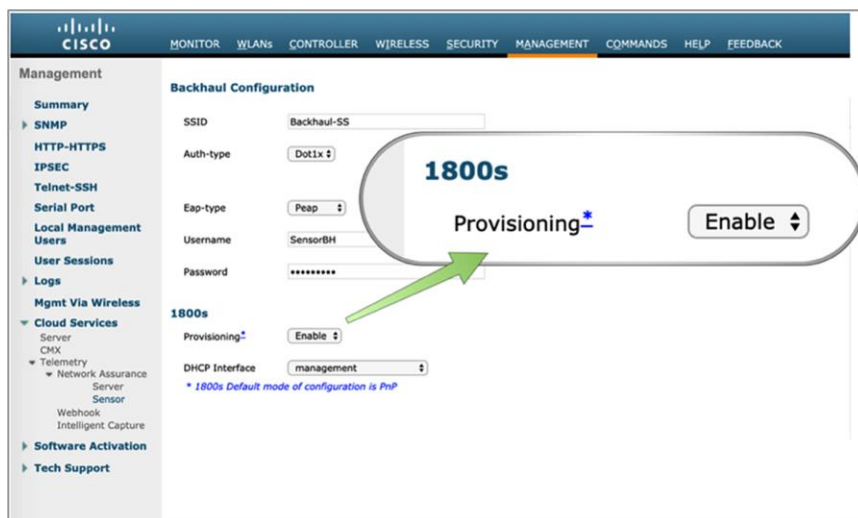

Figure 12.
1. Create a backhaul SSID with the predefined CiscoSensorProvisioning name (**Figure 12**).